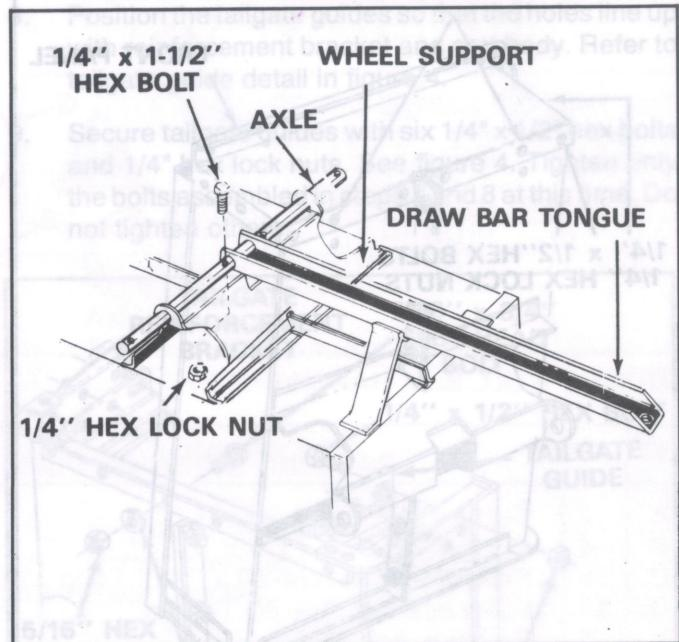

FIGURE 12
14. Tighten all bolts assembled in steps 4 through 13, lower cart assembly to rest on top flanges, with axle support up. See figure 12 on page 6.
18. Assemble axle and draw bar tongue to wheel support keeping open side of tongue facing up, make sure that latch lock snaps over latch stand. Secure axle to wheel support or axle brackets, using $1/4'' \times 1-1/2''$ long hex bolts and $1/4''$ hex lock nuts. See figure 12.